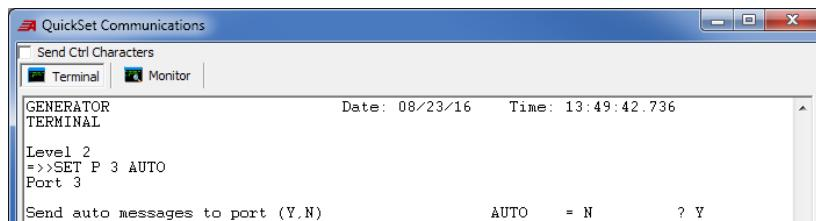

Figure 160 Enable Automessaging
- Step 12. (Optional, but recommended) For quick event reporting, enable automessaging on the relay serial port. This allows the relay to send out an event notification immediately when the event occurs. Use any terminal application to change this relay setting, as shown in *Figure 160*. Enable the **Send Automessage** port setting.